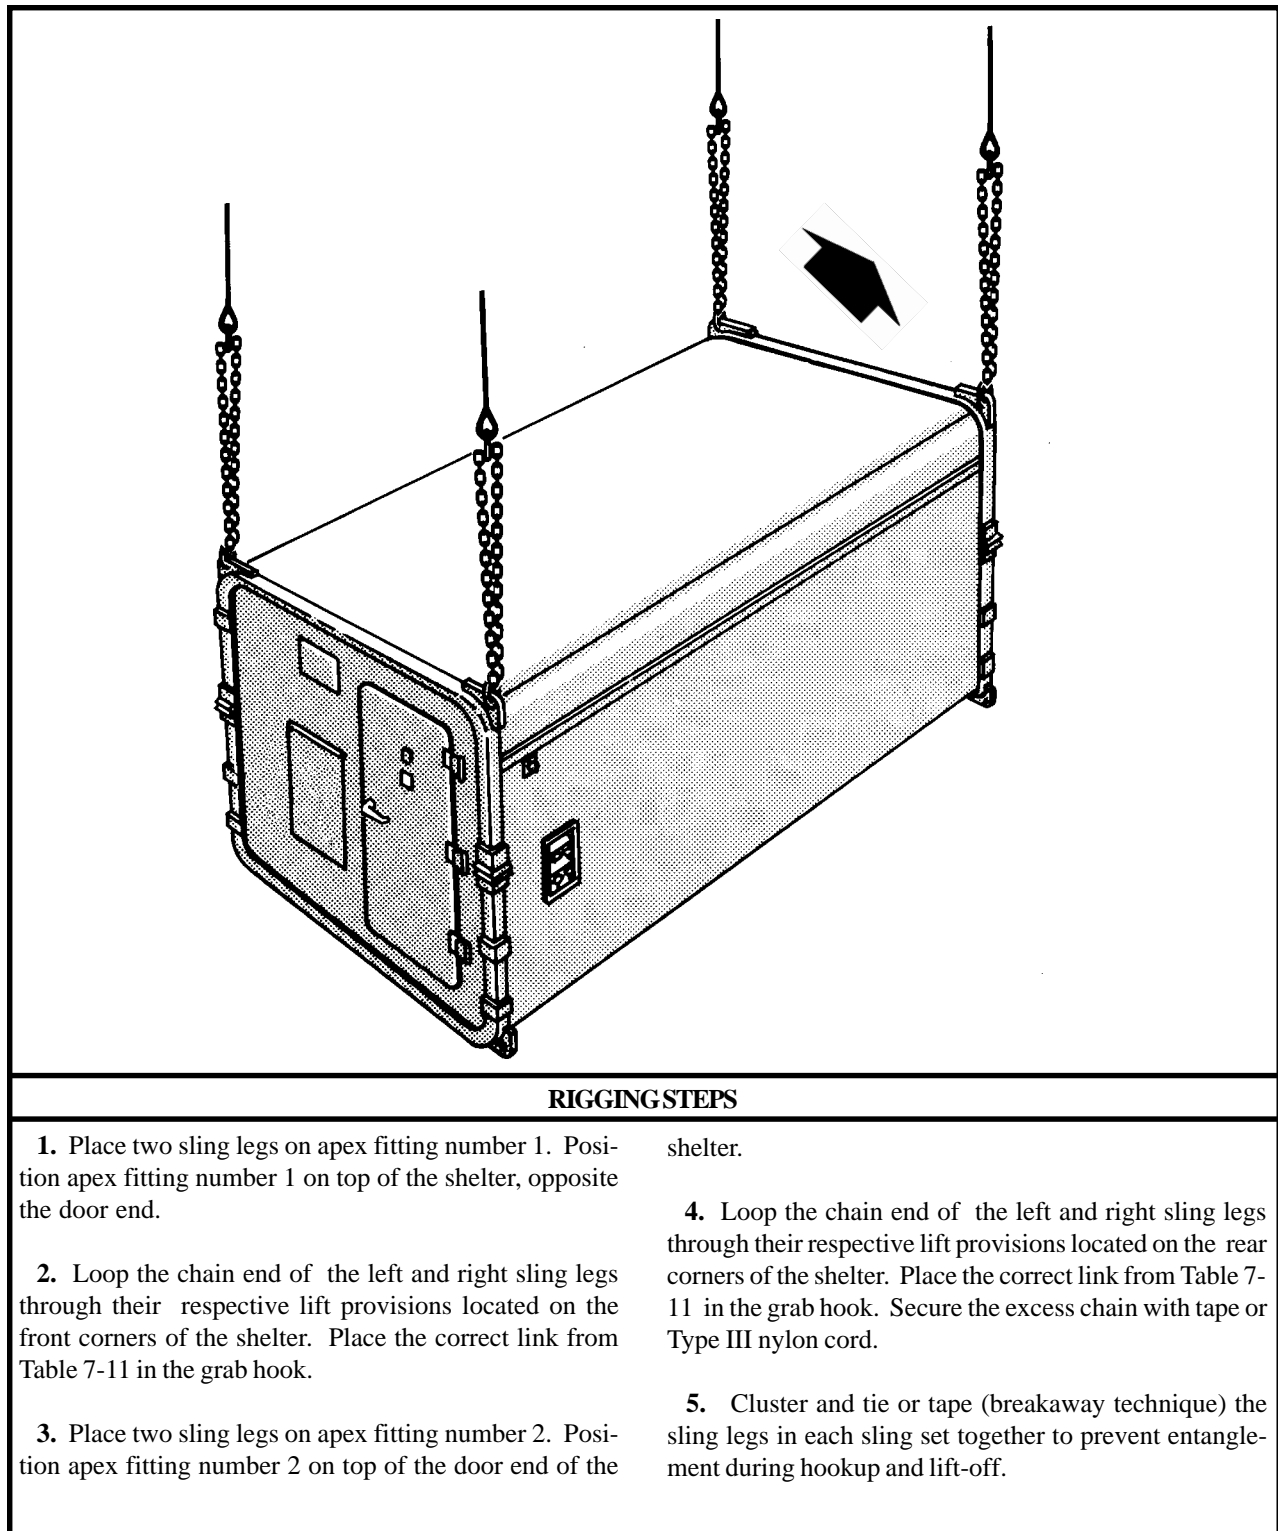

Figure 7-11. Field Maintenance Equipment Shop 21, Unmanned Shop, Electrical Equipment
(2) **Rigging.** Rig the load according to the steps in Figure 7-11.
(4) **Derigging.** Derigging is the reverse of the preparation and rigging procedures in steps d (1) and d (2).